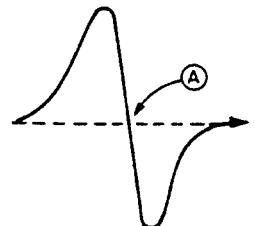

Fig. 4-8 S-Curve of the Focus
- At this time, the output voltage ⑪ changes from negative to positive.
- Furthermore, the S-curve of the focus at this time changes according to Fig. 4-8 below.
The Focus Servo is applied with Point (A) of Fig. 4-8 as its operating point. The Focus Search operation is performed and the Focus Servo SW is set to ON while Point (A) of Fig. 4-8 is being crossed. In order to also prevent malfunction, the logical product of the operation and the Focus OK signal is obtained.